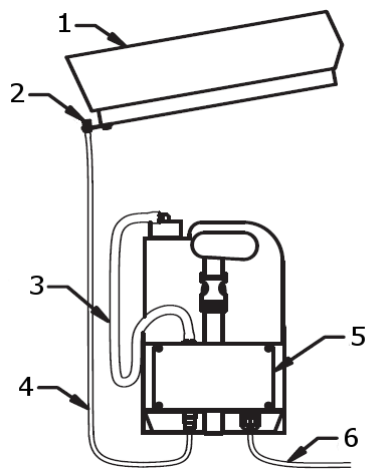

Fig. 2      Key to parts
3. Mount the washer container bracket to a suitable surface. The type of screws will depend upon the mounting surface material. The position of the container should be in accordance with Fig. 2.